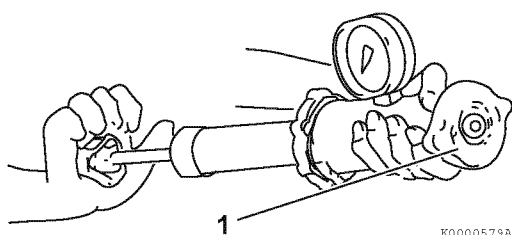

Figure 8-8
1. Check for proper operation of the radiator cap. Install the radiator cap (1, **Figure 8-8**) on a cooling system tester.